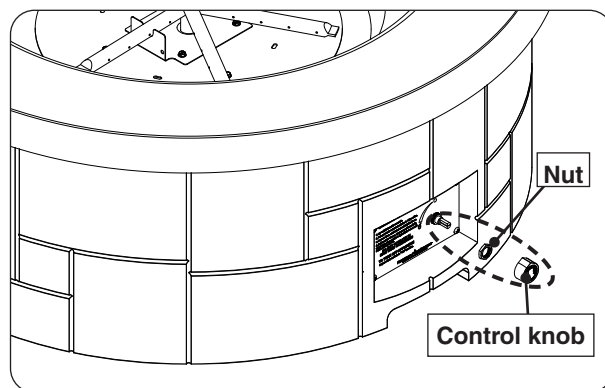

Fig. 29-2 Remove control knob and nut
2. Remove the control knob, and set aside. Use a 20mm socket to remove the nut attached to the valve. See Fig. 29-2.